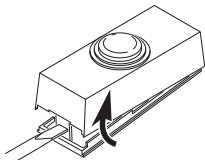
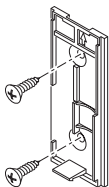

Figure 1
Figure 5
1. **Install alkaline type A23 12 volt push button battery (included).** Remove back of case by pushing in tab on bottom with a small screwdriver (see Figure 1). See diagram inside push button for correct battery orientation. *Note:* If batteries are preinstalled, remove orange battery tab.
- **Screw Mounting:** To mount with screws, remove back of case by pushing in tab on bottom with a small screwdriver (see Figure 1). Attach back of case to door jamb or wall (see Figure 5). Snap front of push button on.